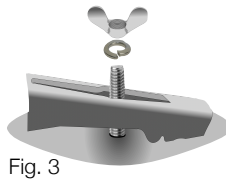
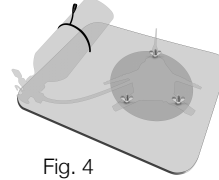

Fig. 3
Fig. 4
7. Place the feet of your MSR stove over the bolts (Fig. 3) ensuring fuel line is oriented as in Fig. 4.
4. Close pouch throat to secure lid onto kettle (Fig. 4)